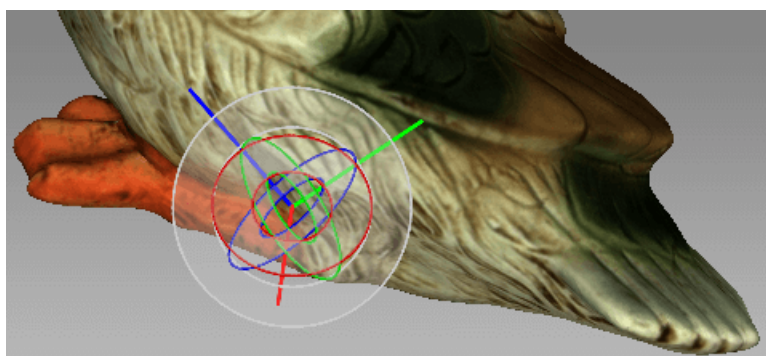

Figure 116: Rotation control
- Drag one of the three circles (see Figure 116) to rotate the object. Hitting the key that corresponds the required axis (X, Y or Z) will hide the controls for the other axes.